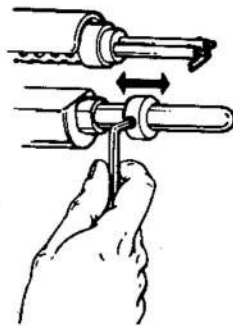

Fig. 17
22.2 Select the correct mandrel (Table 3) and fit it to the stripping head (fig 17).